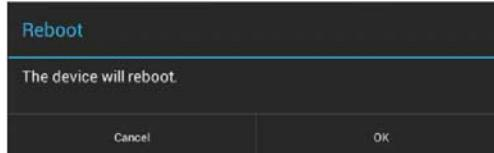

FIG. 11 Reboot window
1. In the Maintenance page, select **Reboot**. This opens the Reboot window (FIG. 11).